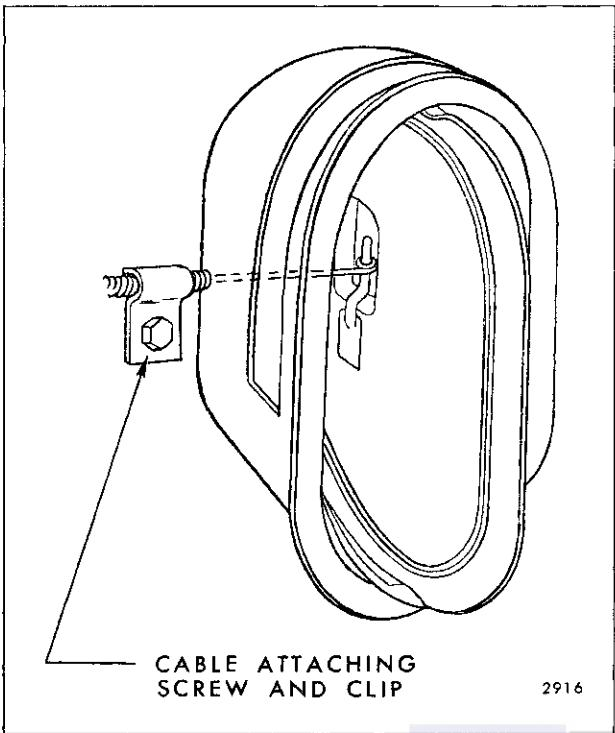

Fig. 5-3—Shroud Side Air Outlet Duct Assembly —
2. Loosen cable attaching screw and clip and disengage control cable from outlet door (Fig. 5-3).
2. Loosen attaching screw securing cable to shroud side air outlet duct assembly (Fig. 5-3).